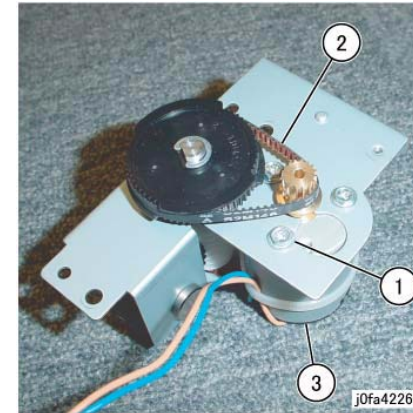

Figure 4 Removing the Stacker Motor
10. Remove the Stacker Motor (Figure 4):